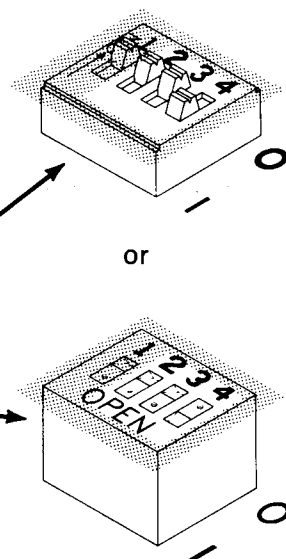

Figure 2-3. Select Code Switch Settings
7. Determine the select code and default configuration that your peripheral will require and set the appropriate switches, as shown in figures 2-3 and 2-4.
The select code and configuration (default) switches found on your interface card may be either the slide or rocker type. To set the switch segments to "1", either depress the "1" side (as marked on the circuit card) of the rocker switch or slide the tab of the slide switch to the "1". To do this, use the point of a pencil or other similar object. The select code, which is preset at the factory, is "4" and shown selected in figure 2-3 for both switch types.
Select codes 3 through 10 may be set with these three switch segments. To change or verify the factory setting, orient the circuit board as shown in Figure 2-3 and locate switch segments 2, 3 and 4. Next, identify the "0" and "1" switch positions on the circuit board. You may verify that select code "4" is properly set by comparing the actual positions of switch segments 2, 3 and 4 with those illustrated. They should be the same.